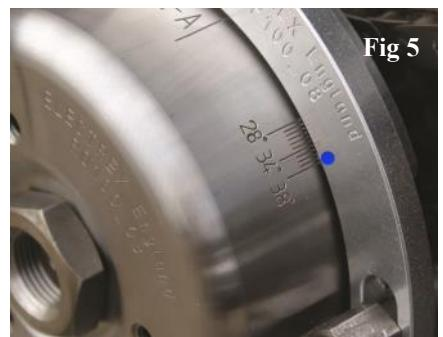

Fig 5
**Note:** The new rotor R0100-03, has degree markings to make timing set-up simple. With the piston set at TDC (Top Dead Centre) align the correct degree marking with the blue punched dot on the stator plate, see Fig. 5. This sets the full advance X°. This can be checked by using a strobe light - where the 'FA' mark on the rotor should align with the red dot on the stator.